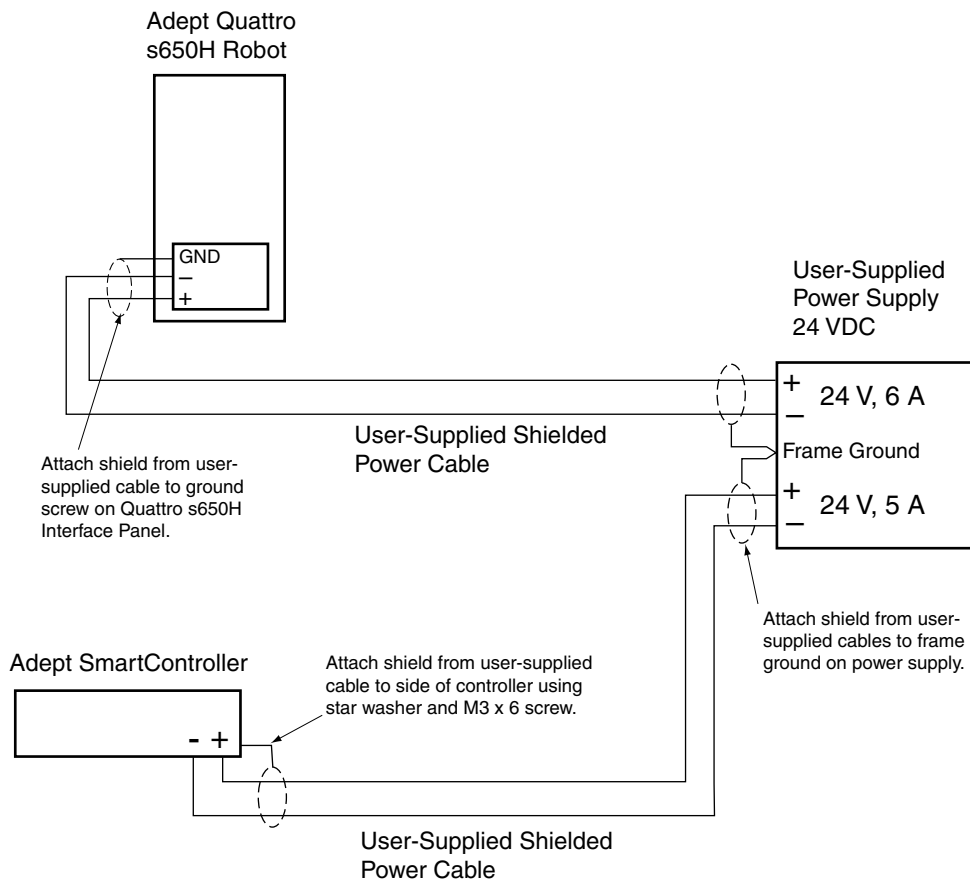

Figure 4-3. User-Supplied 24 VDC Cable
Shield Termination	Braided shield connected to '-' terminal at both ends of cable. See Figure 4-3 on page 56 .
1. Connect one end of the shielded 24 VDC cable to your user-supplied 24 VDC power supply. See **Figure 4-3**.